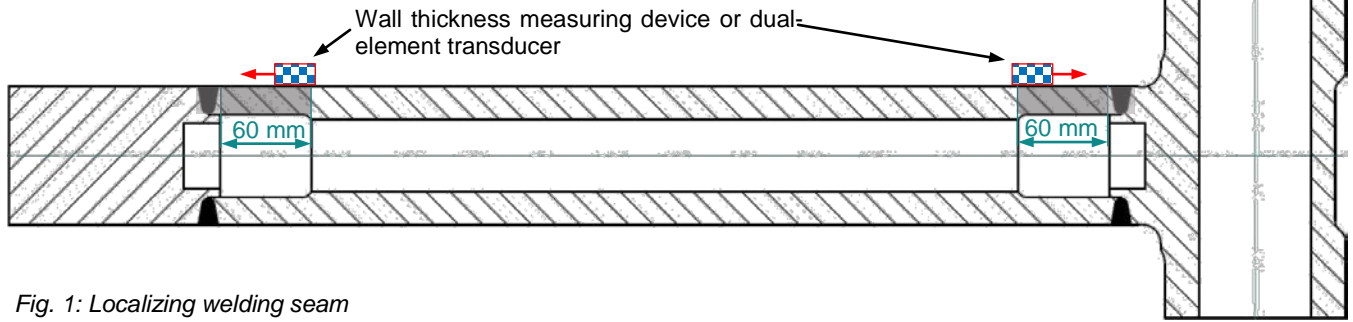

Fig. 1: Localizing welding seam
- As illustrated in Fig. 1, use the measuring equipment (chequered rectangle) to determine the wall thickness of the piston rod in the direction of the arrow. Find the centre of the welding seam as specified in the drawing (light-grey area).